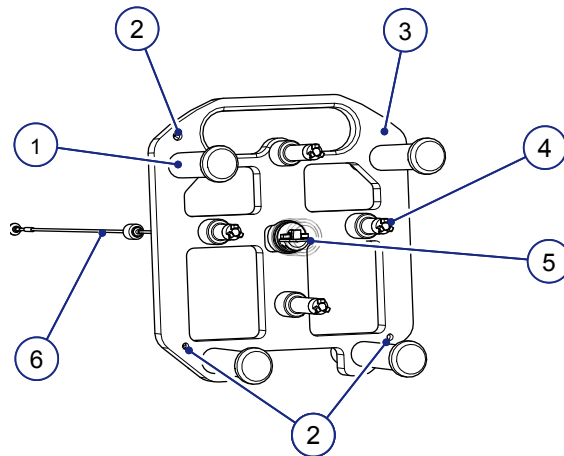

Figure 3.33 The QA tool Plus
The QA tool Plus has four cylindrical posts (1) and a center post (5), see Figure 3.33. The center post contains a diode sensitive to radiation. There are also four rods with steel balls (4) for CBCT QA check. The base plate (3) of the QA tool Plus has the same shape and thickness as the coordinate frame. It also has the same holes (2) for locating pins as the coordinate frame. This design makes the QA tool Plus fit in the frame adapter.